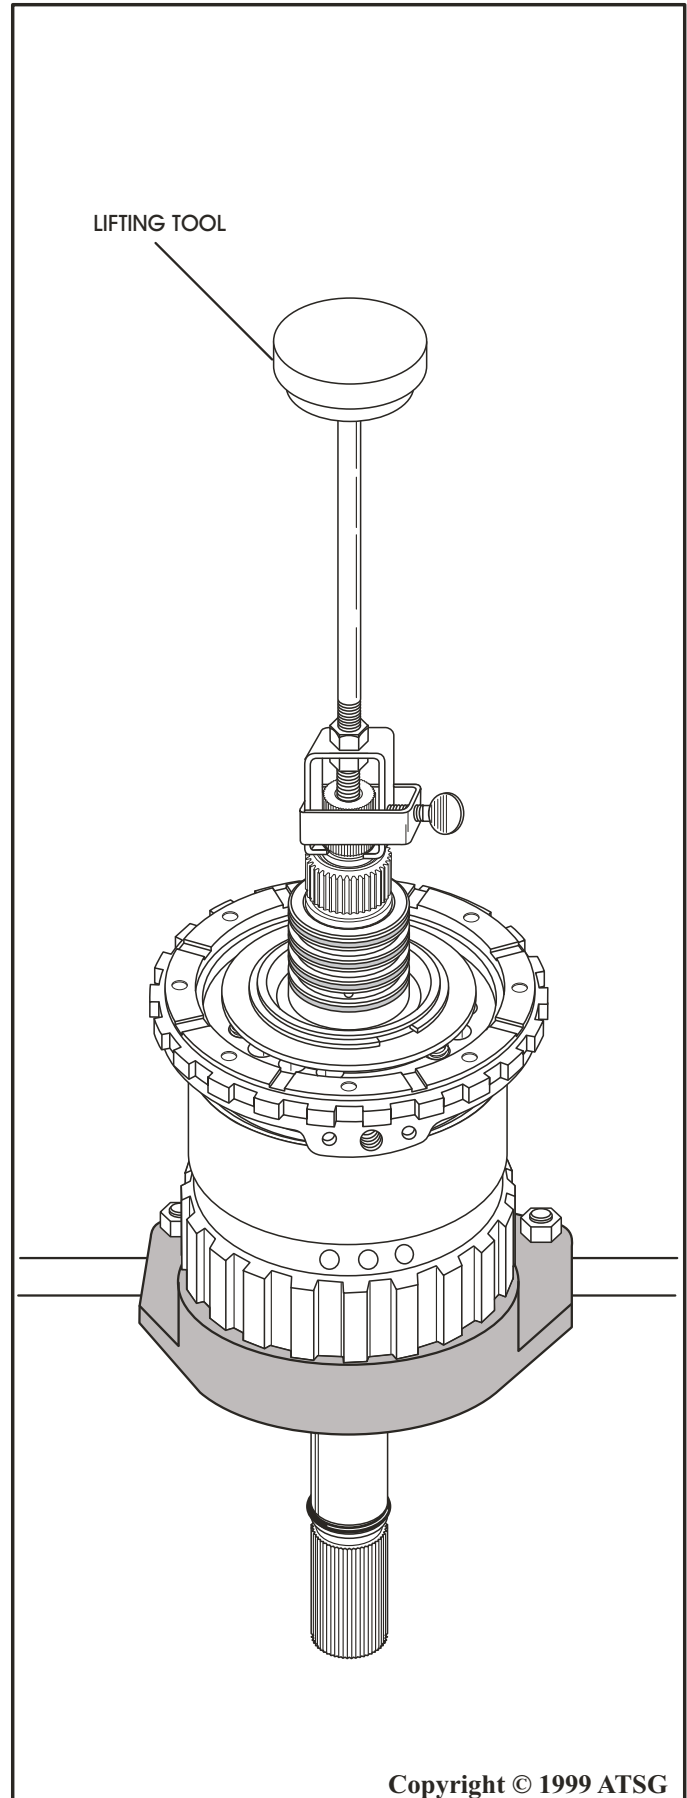

Figure 74
47. Install the lifting tool onto the completed gear train assembly, to prepare for final assembly, as shown in Figure 74.